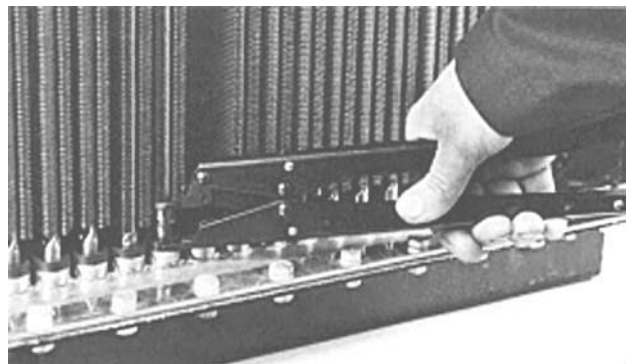

FIGURE 50-23. INSTALLATION TOOL (VJ6567)
2. After the tube is loose, position installation tool (VJ6567) at the bottom of the tube to be removed. Refer to Figure 50-23. The upper jaw of the installation tool should be positioned just below the rectangular section of the tube. The bottom jaw should rest on the seal. Squeeze the installation tool just enough to allow the bottom of the tube to be removed from the bottom seal.